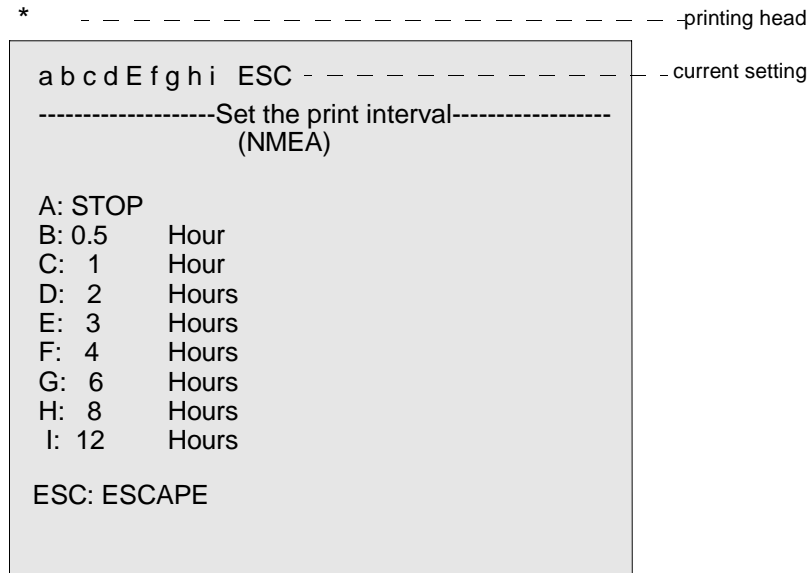

Figure 21. Main Menu Printout
57. The below menu (figure 21) appears when SYSTEM CLOCK is on in the MENU-C.
58. In the above example (figure 21), the current print interval setting is “E” (three hours), i.e., selected navigation data is printed every three hours. Select a print interval by placing the printing head above the character designating the interval desired followed by pressing the ACCEPT key (figure 3, item 8). If automatic printout of navigation data is not desired, select “A” (STOP).